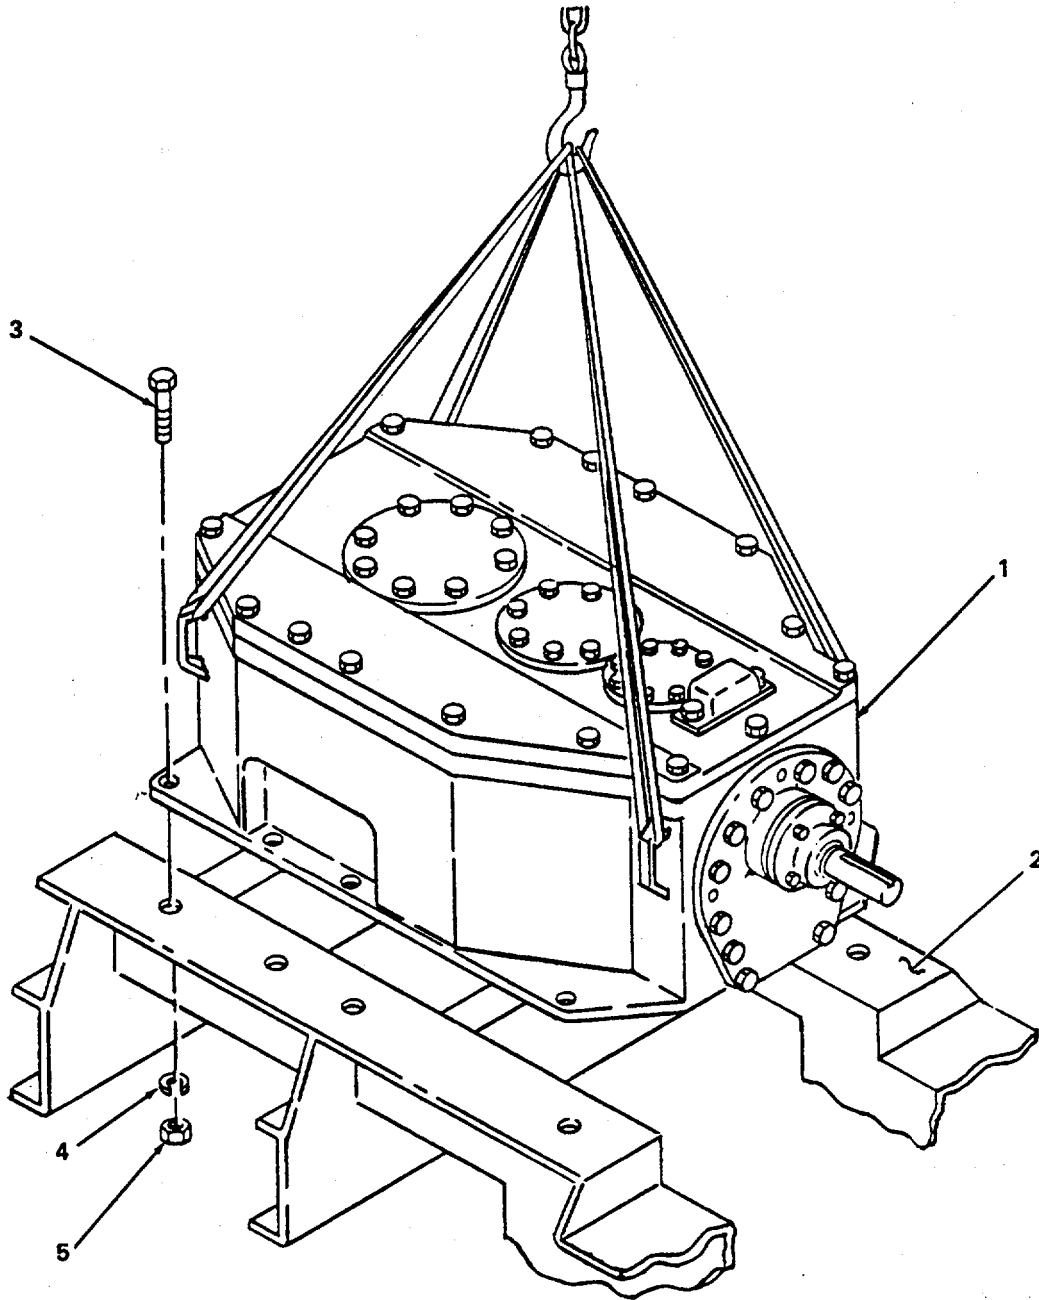

Figure 5-16. Speed Reducer Installation
- (b) Lift speed reducer (1, figure 5-16) into machinery house through opening in roof and position unit on mounting (2).
- (2) Secure speed reducer on mounting.
- (b) Install four screws (3), four lockwashers (4), four nuts (5), and tighten.
- (3) Replace insert on machinery house roof.